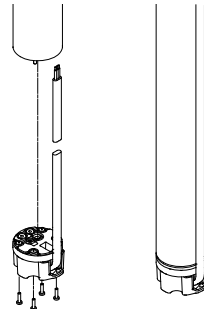

Fig. 7
- Press the cable plug onto the motor socket. The plug cannot be fitted wrongly, see fig. 7.
- Fit and tighten the four screws (1-1.5 Nm), see fig. 7.